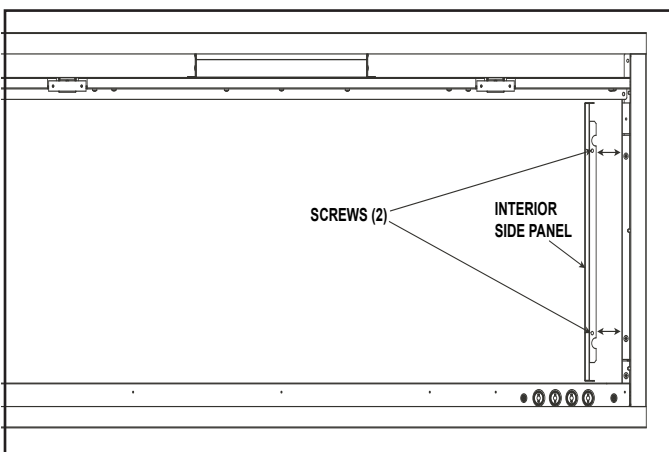

Figure 4.2 Interior Side Panels Covering Attachment Points for Recessed Mounting in 2 X 6 in. Framing
3. Remove interior side panels on left and right of appliance by removing two (2) screws. See Figure 4.2.